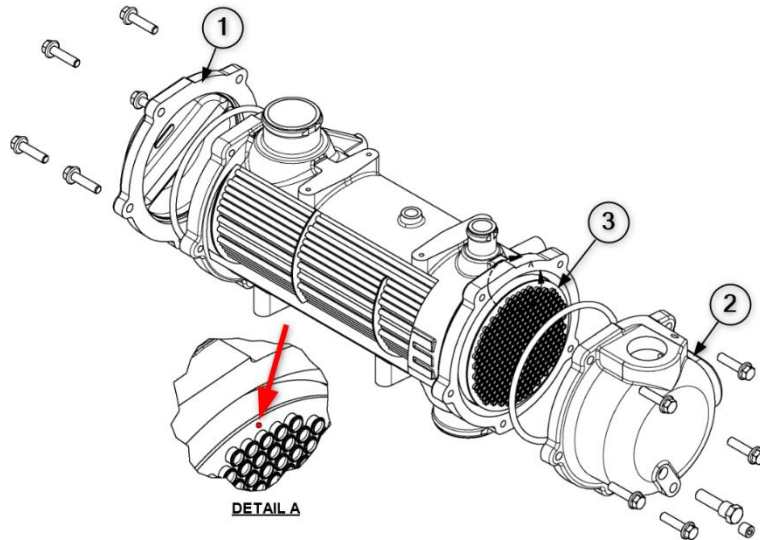

Figure 9-1
- 9.6.3.1.1. Locate the Crossover End Cap (reference figure 9-1 item 1)
- 9.6.3.1.3. Remove the Crossover End Cap (reference figure 9-1 item 1)
- 9.6.3.2.1. Locate the IO End Cap (reference figure 9-1 item 2)
- 9.6.3.2.3. Remove the IO End Cap (reference figure 9-1 item 2)
- 9.6.3.3.2. Remove the tube bundle by sliding it out of the IO side of the assembly. (reference figure 9-1 item 3)
- 9.6.5.1.1. Install the tube bundle from the IO side of the assembly. (reference figure 9-1 item 2)